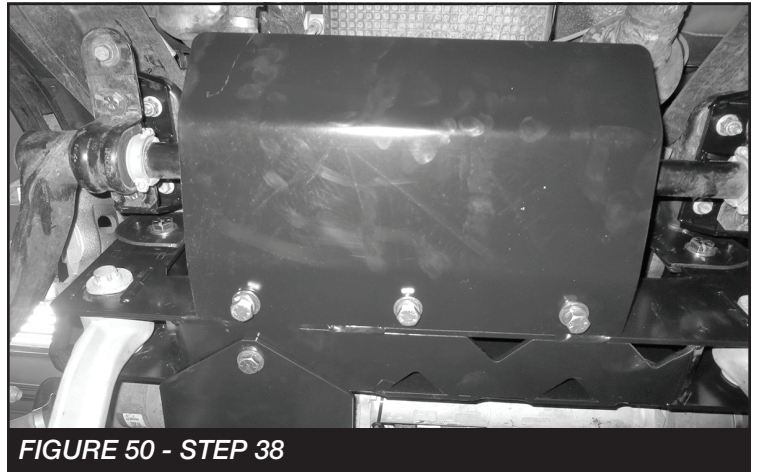

FIGURE 50 - STEP 38
38. Install FT31063 (Sway bar skid plate) to the rear crossmember using the supplied (3) 1/2" x 1-1/4" bolts, split washers and flat washers. **SEE FIGURE 50**